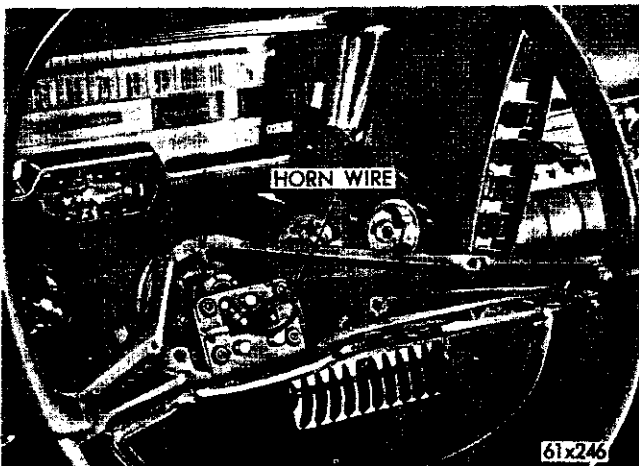

Fig. 125—Horn Switch and Horn Wire
- (1) Disconnect the cable at the battery negative post.
- (2) Remove the two screws from the underside of the steering wheel and remove the horn blowing actuator and steering wheel cover.
- (3) Disconnect the horn wire at the horn blowing switch.
- (4) Remove the four screws and insulators and remove the horn blowing switch (Fig. 125).